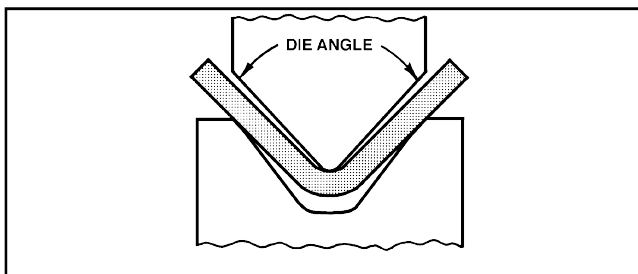

FIGURE 5-11 Air Bend
- **DO NOT** attempt to air bend a part to the same bend angle as the die angle. Dies must have sufficient allowance for material springback so the material does not hit bottom in the die. It is recommended to use a 75° (or less) die angle when air bending to allow for materials with large springback. See Figure 5-11.